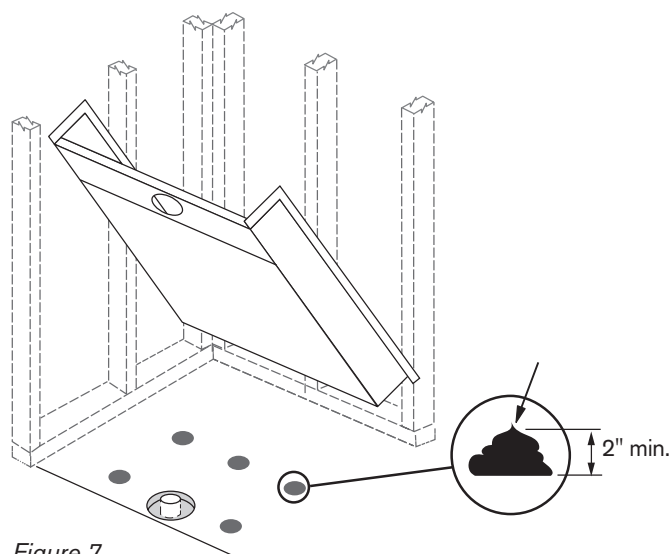

Figure 7
- 13 Place pan in pocket and prop it up while you apply the mud set. Place thick (2" high, minimum) dollops following the pattern you marked on the floor. The mud set will fill the void to help support the pan. (Figure 7)